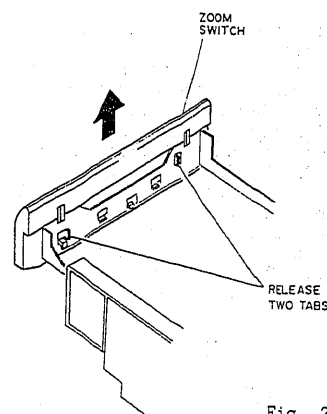

Fig. 2-15
- 6) Release two (2) tabs and remove the zoom switch in the direction of the arrow. (See Fig. 2-15)